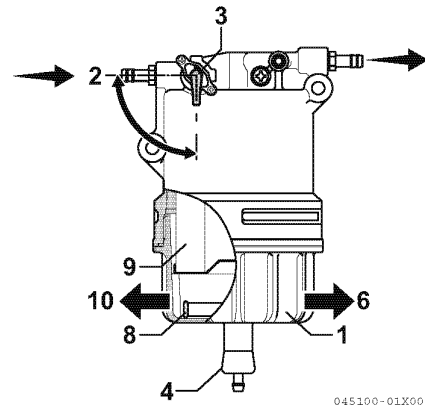

Figure 12
1. Position an approved container under the cup (1, **Figure 12**) of the water separator to collect the contaminants.
2. Close the fuel valve (3, **Figure 12**) by turning it to (2, **Figure 12**) position.
3. Loosen the drain valve (4, **Figure 12**) and remove the fuel oil and mixed substance. *See Drain water separator on page 74.*
4. Turn the cup (1, **Figure 12**) to the left (10, **Figure 12**) and remove from the bracket. If it comes with a drain sensor, remove the cable in advance.
6. Remove the float ring (8, **Figure 12**) from the cup. If it comes with a drain sensor, there is not float ring. Move the drain inside the cup to the specified container, and dispose with a predetermined method.
11. Attach the bracket in the cup. Turn to the right (6, **Figure 12**) with a torque of 27 - 33 N·m (2.8 - 3.4 kgf·m). Always tighten with your hand.
13. Open the fuel valve (3, **Figure 12**).